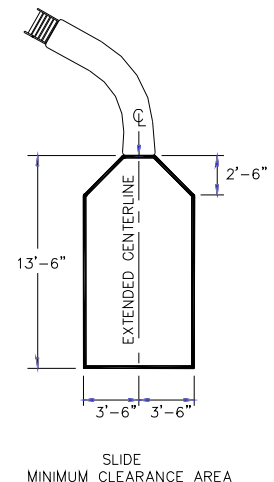

FIG. 9
- A. The minimum clearance distance on either side of the extended centerline of the slide runway shall not be less than three feet six inches (3'-6") at a point no less than two feet six inches (2'-6") from the exit lip of the slide and extending a distance of thirteen feet six inches (13'-6") in front of the slide as shown in **FIG. 9**.